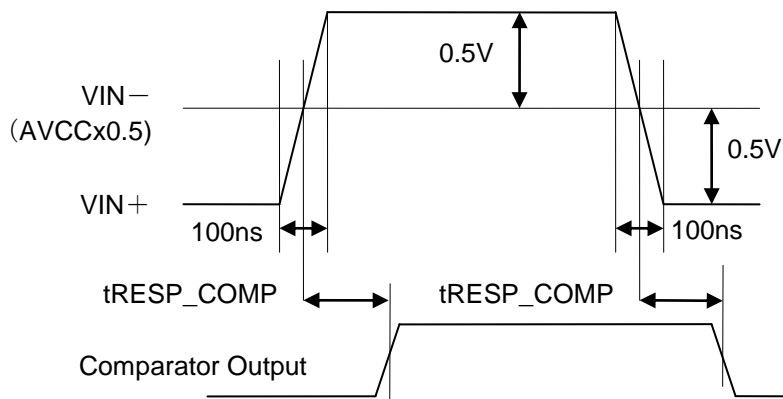

Figure 31-2 Comparator Timing Chart
(2) Figure 31-2 shows the Measurement condition.